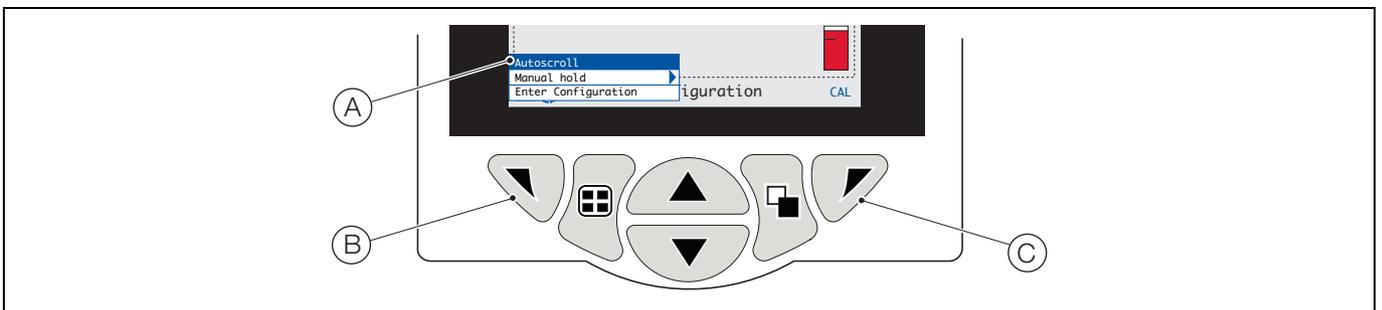

Fig. 6.2 *Operator* menus
The transmitter has 4 modes of operation – all modes are accessed from the *Operator* menu – see Fig. 6.2.
Referring to Fig. 6.2, *Operator* menus (A) are accessed from any *Operating*, *View* or *Log* page by pressing the ∇ key (B).
When multiple wet-sections are fitted and, if *Autoscroll* is selected from the *Operator Menu* (see Fig. 6.2, page 27), the display scrolls through each available *Operator Page* consecutively.